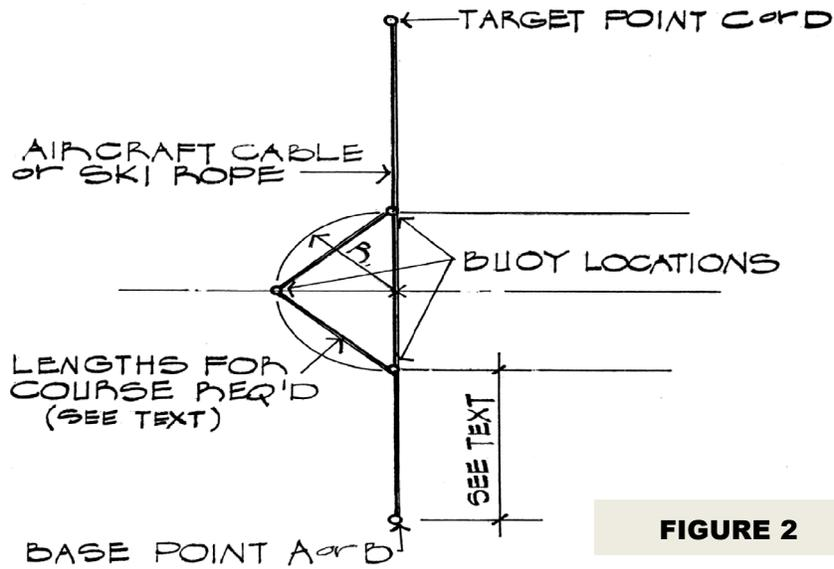

FIGURE 2
3. A cable or rope may be marked for buoy locations and stretched taut between points A & C, then B & D, and used to established buoy locations. Aircraft cable or polypropylene ski rope is preferred to minimize stretching, as this will tend to make the course longer. See Figure 2.